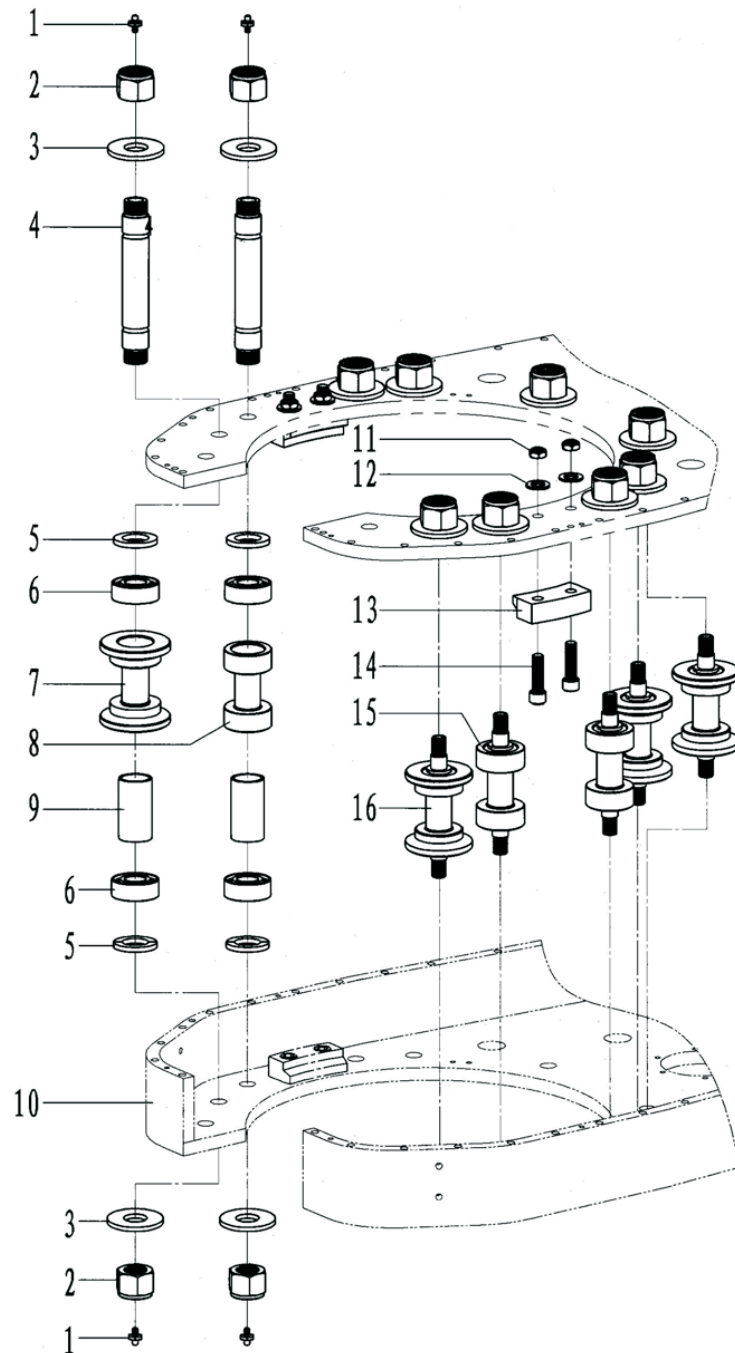

Fig.21
7.18 Righting assembly(Fig.21,Table21)